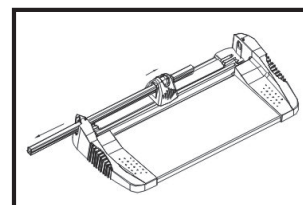

Fig 2.
**Step 2:** Holding the cutting head, pull out the guide rail just until the bar is released from the right hand side and pressure is released from the cutting head (Fig 2).